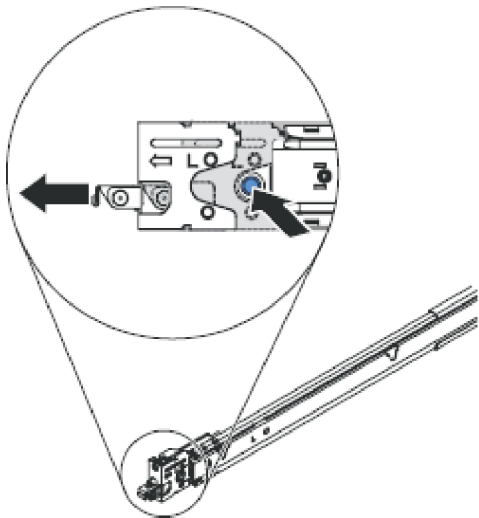

Figure 23. Preparing the front end of the slide rails
4. Prepare the front end of the slide rails, as shown in Figure 23.